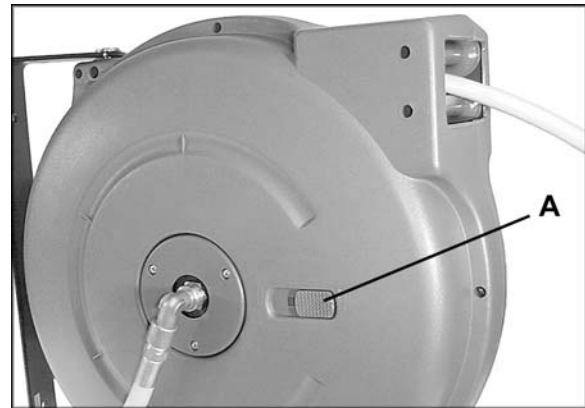
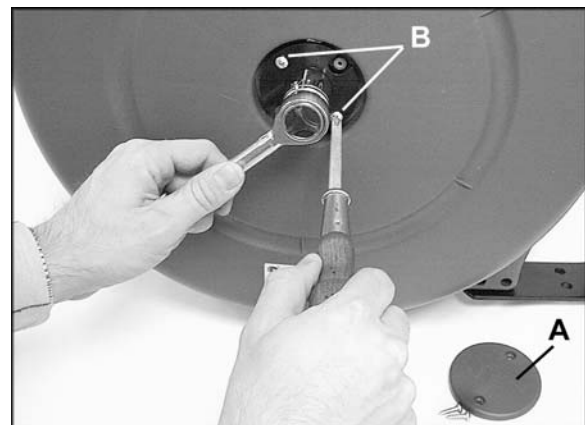

Fig. 2
Fig. 3
2. To lock the reel: Pull out the hose and allow it to retract after hearing the first, second, or third “click”. Then move the slipping block (A-Fig. 2) to the lock position as shown.
3. To unlock the reel: Move the slipping block (A-Fig. 2) to the unlock position. Slowly pull out the hose until the “clicking” noise stops, and then let the hose retract until the hose stop rests against the hose guide.
2. Remove the cover (A-Fig. 3) and loosen the two screws (B-Fig. 3) on the spring adjustable bushing, while holding the bushing secure with a socket wrench as shown. With the screws removed, rotate the spring adjustable bushing clockwise to increase spring tension, counterclockwise to decrease spring tension.
3. Re-tighten screws (B-Fig. 3) and replace cover (A-Fig. 2)